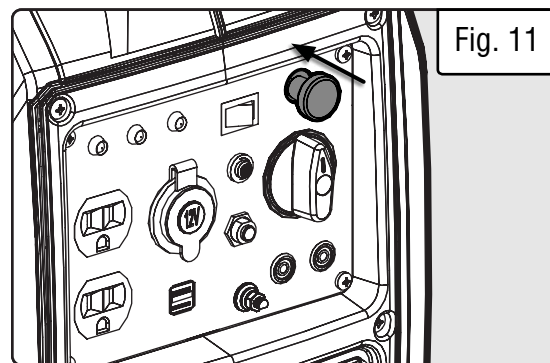

Fig. 11
**NOTE:** After repeated failed attempts to start the engine, please consult the troubleshooting guide before attempting again. If problems persist please call **1-(800) 232-1195** M-F 8-5 CST.
13. Slowly push in the choke lever to open the choke valve (Fig. 11).